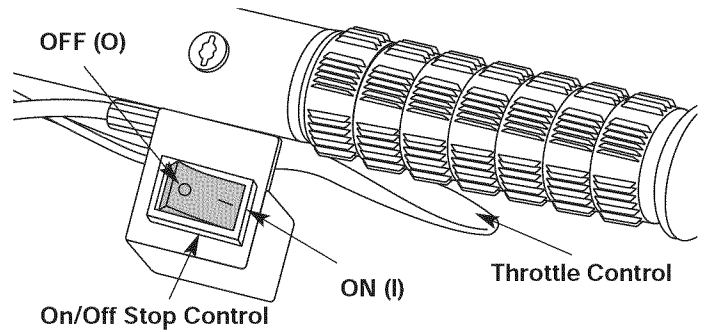

Fig. 6
2. Make sure the On/Off Stop Control is in the **ON [I]** position (Fig. 6).